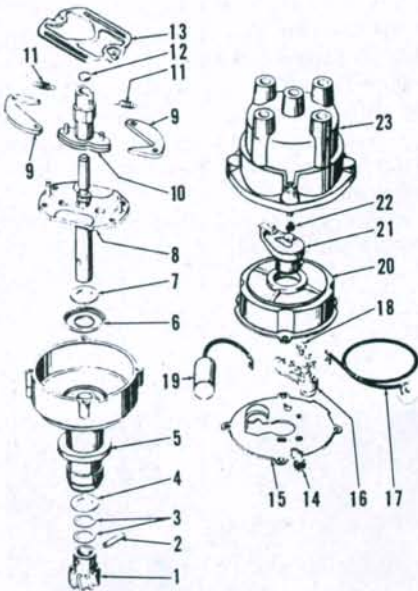

Fig. 146—Exploded view of ignition distributor showing component parts.
**136. OVERHAUL.** Refer to Fig. 146 for an exploded view of the distributor. Centrifugal advance mechanism can be checked for binding or broken springs by turning rotor (21) counterclockwise and releasing after removing cap (23). Bushings are not available for housing (5); renew housing and/or shaft (8) if clearance is excessive. Shims (3) are available in thicknesses of 0.13 mm (0.005 inch) and 0.25 mm (0.010 inch)